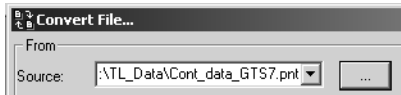

Figure 3-6. Convert File – Source
4. Click **Open**. The path of the source file displays in the *Source* field (Figure 3-6).